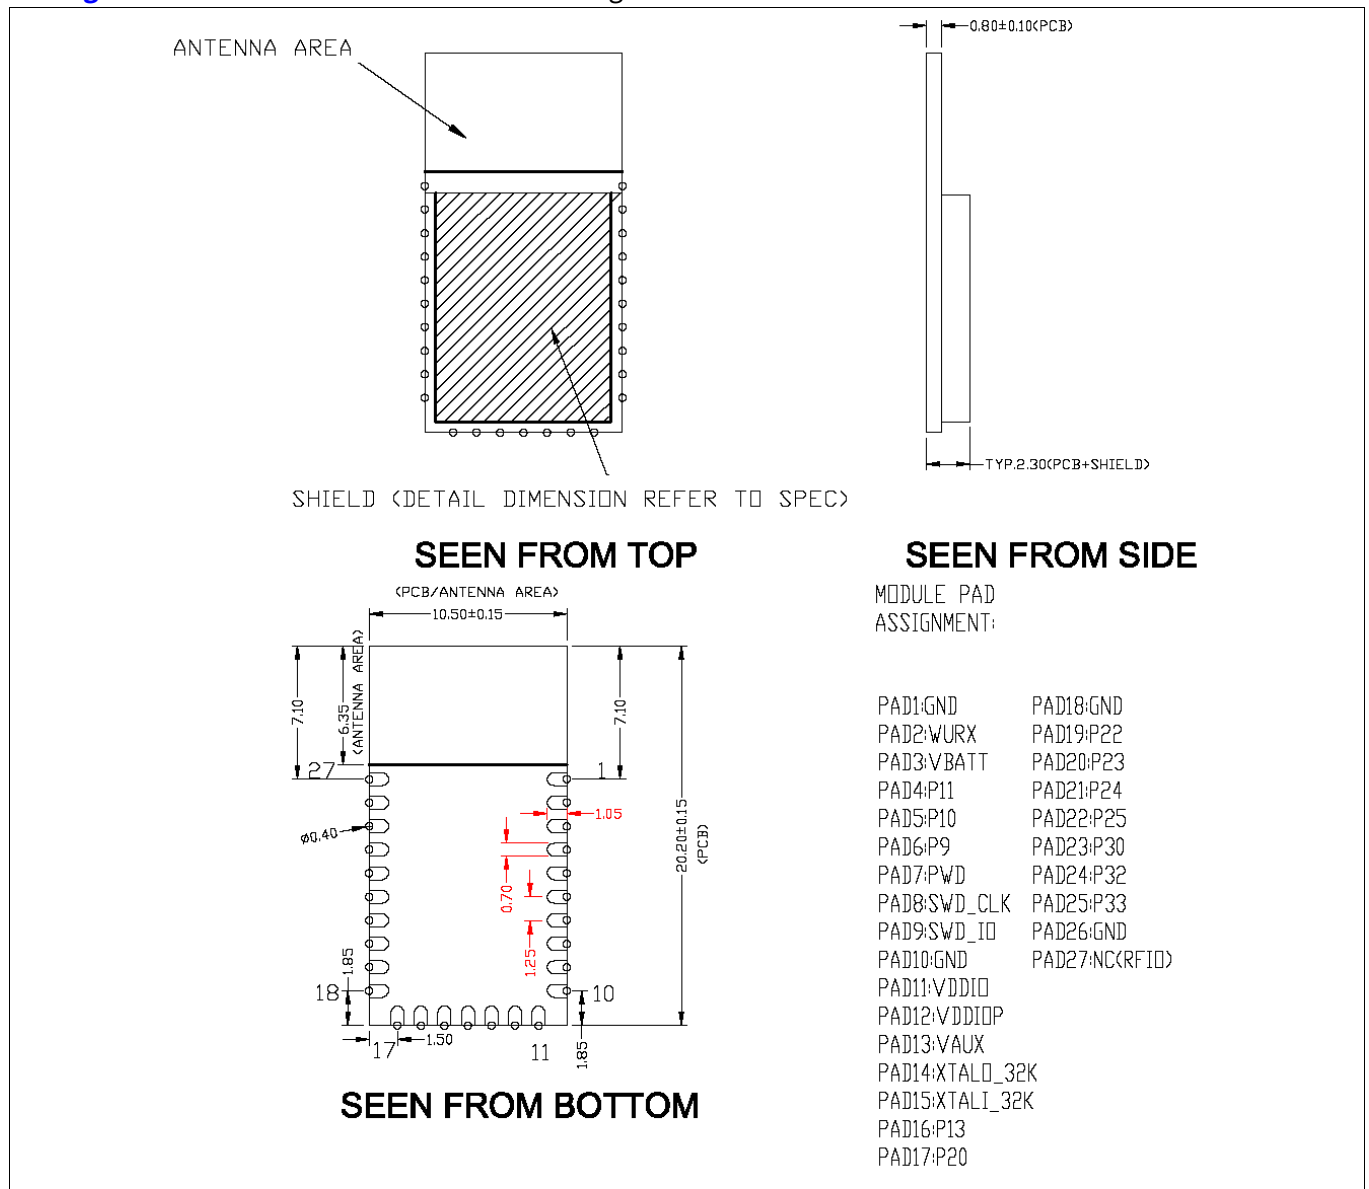
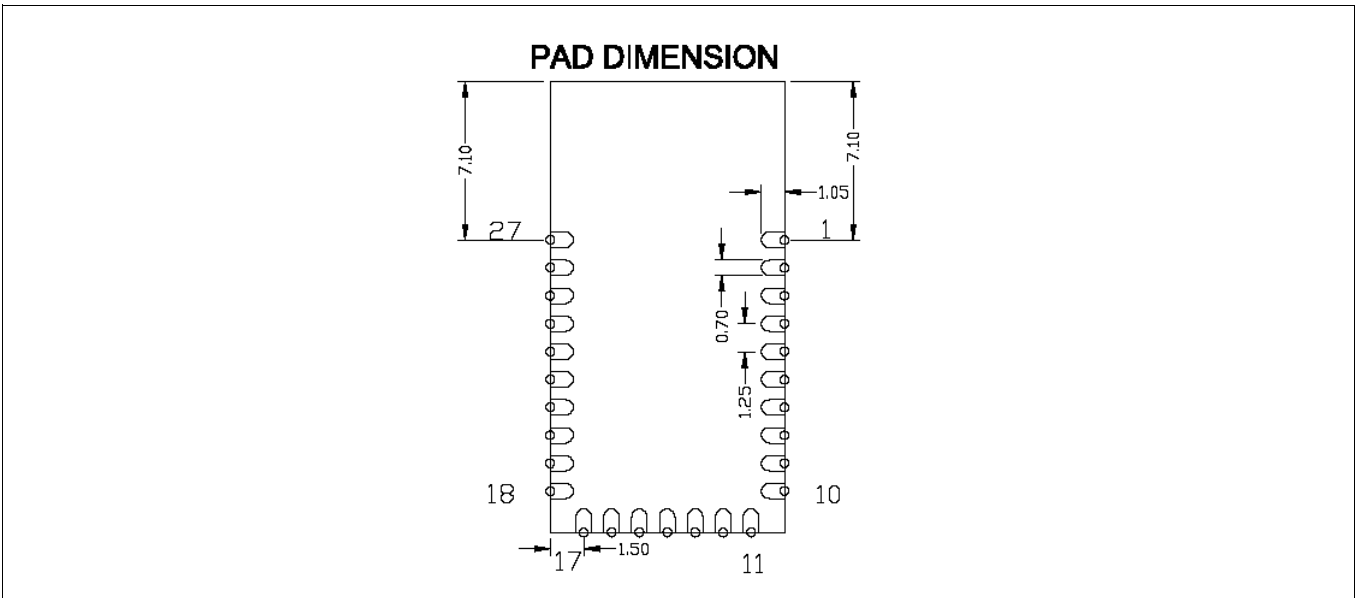

Figure 2 **Module mechanical drawing**
Figure 3 Solder pad dimensions (seen from bottom)
Infineon reserves the right to select components from various vendors to achieve the Bluetooth® module functionality. Such selections will still guarantee that all mechanical specifications and module certifications are maintained. Designs should be held within the physical dimensions shown in the mechanical drawings in Figure 2. All dimensions are in millimeters (mm).
See **Figure 2** for the mechanical reference drawing for CYW20822-P4xxI040.
As shown in the bottom view of Figure 2, CYW20822-P4xxI040 connects to the host board via solder pads on the backside of the module. Table 2 and Figure 3 detail the solder pad length, width, and pitch dimensions of CYW20822-P4xxI040 module.
1. Antenna Area Keepout: The host board directly below the antenna area of the module (see Figure 2) must not contain ground or signal traces. This keepout area requirement applies to all layers of the host board.
2. Module Placement: The ideal placement of the Bluetooth® module is in a corner of the host board with the PCB trace antenna located at the far corner. This placement minimizes the additional recommended keepout area stated in item 2. See AN96841 for module placement best practices.